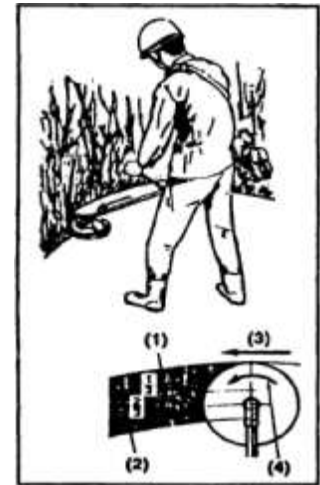

Fig.BC8
5.2.1- Metal blade usage (Fig.BC8)